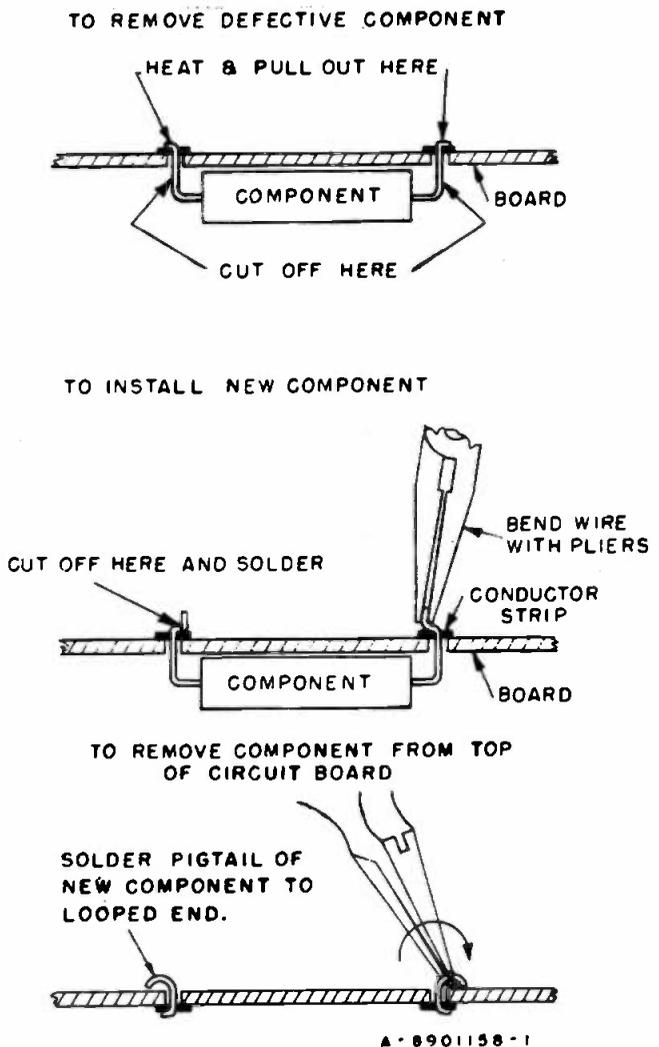

Figure 20—Replacement of Components in Printed Circuits
b. Using long nose pliers, form a loop of the lead ends as shown in figure 20.
c. To remove the defective component, snip the leads off at the component side of the board, see figure 20.
g. Crimp the wire tightly against the board (see figure 20), and cut off the excess component lead. Leave about  $\frac{1}{16}$  inch of wire protruding from the edge of the hole.